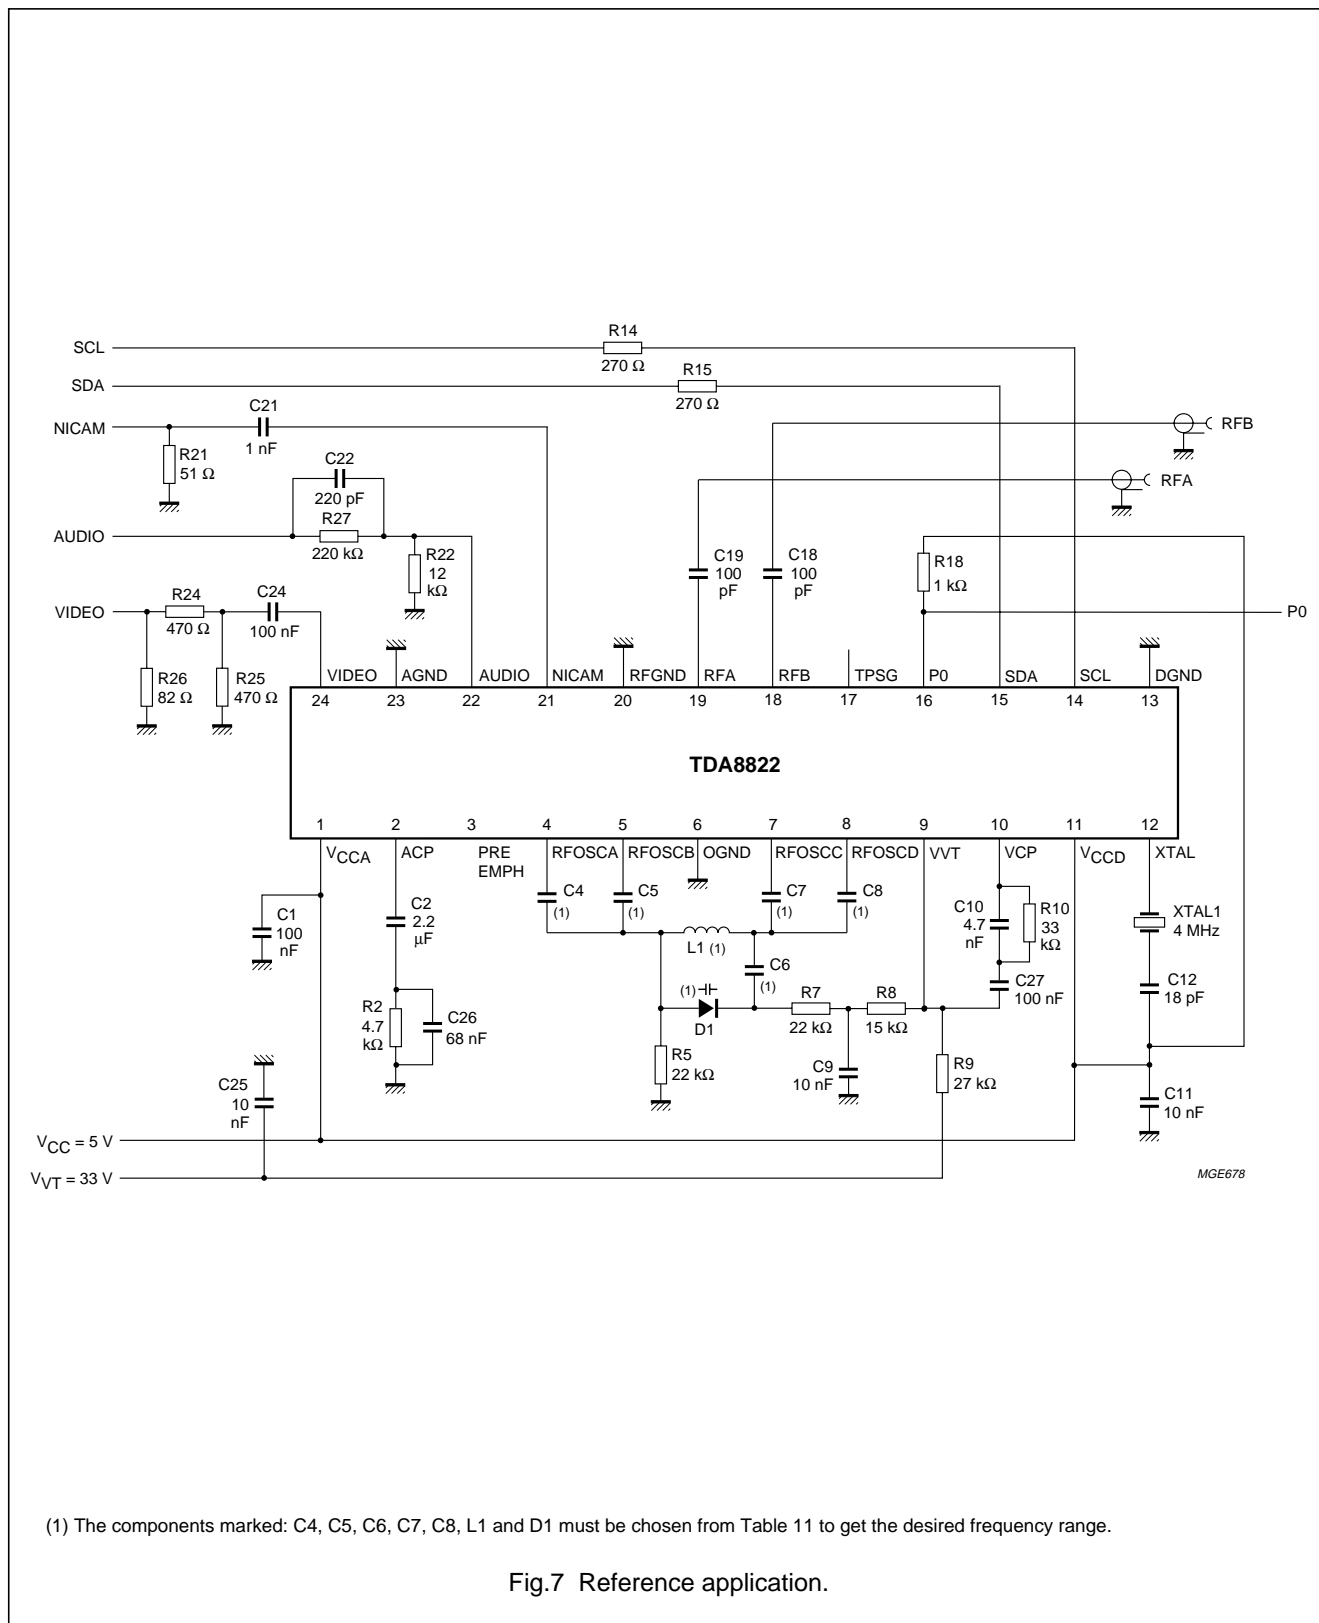

Fig.7 Reference application.
The frequency range the IC covers is fixed by the choice of the components marked with a note (1) in Fig.7. For these components, it is recommended to use the values indicated in Table 11.
To handle this kind of signal, we use a resistive divider with two 470  $\Omega$  resistors (R24 and R25 in Fig.7) to divide the 1 V (p-p) signal down to 500 mV (p-p). In order to get an input impedance of 75  $\Omega$ , a resistor of 82  $\Omega$  is implemented in parallel to the divider (R26 in Fig.7).
This pin needs to be grounded through a 12 k $\Omega$  resistor (R22 in Fig.7). Care must then be taken if a coupling capacitor needs to be implemented on the audio path to connect it between the signal source and the input, with the resistor of 12 k $\Omega$  still connected to the AUDIO pin.
It is necessary to connect the loop filter between this pin and ground. The loop filter indicated in Fig.7 gives a cut-off frequency lower than 20 Hz.